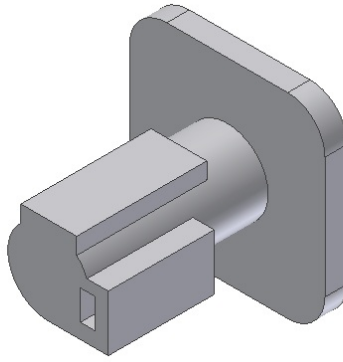

Figure 7-72 Model after creating the rectangular cut feature
- d. Add two rectangular join features to the cylindrical feature and create the rectangular cut feature on one of the rectangular join features, refer to Figure 7-72.